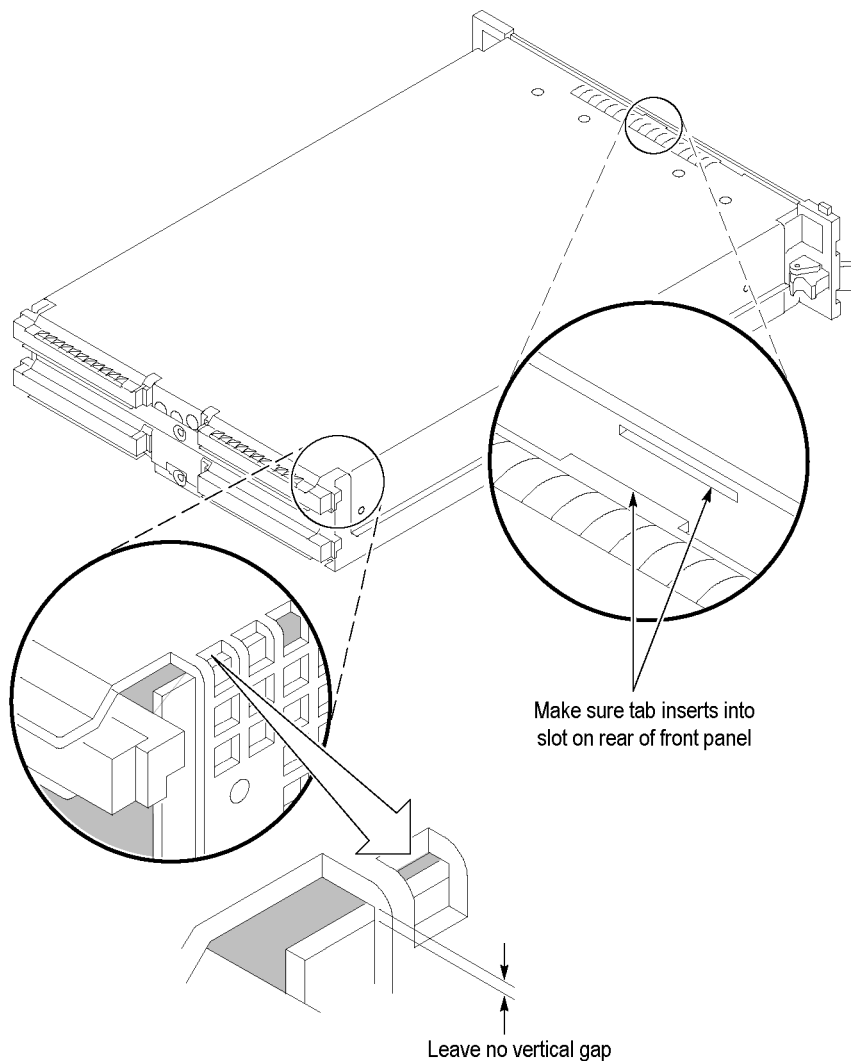

Figure 15: Seating the cover on the chassis
3. Make sure that the cover is fully seated (no gaps) against the front and rear chassis flanges. (See Figure 15.)